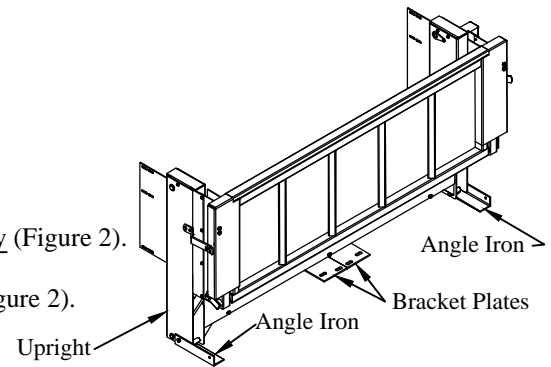

Figure 2: Complete liftgate (**G²** shown).
4. **Unbolt** and **Save** the two (2) angle irons attached to the liftgate uprights- **G² only** (Figure 2).
5. **Remove** and **Save** the two (2) bracket plates attached to the liftgate- **G² only** (Figure 2).